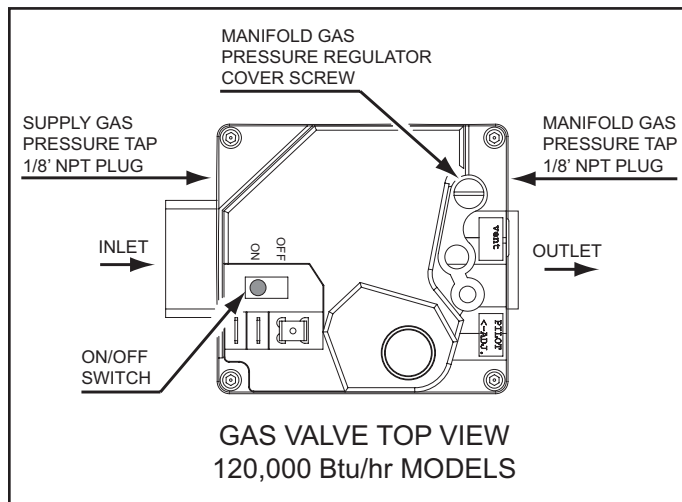
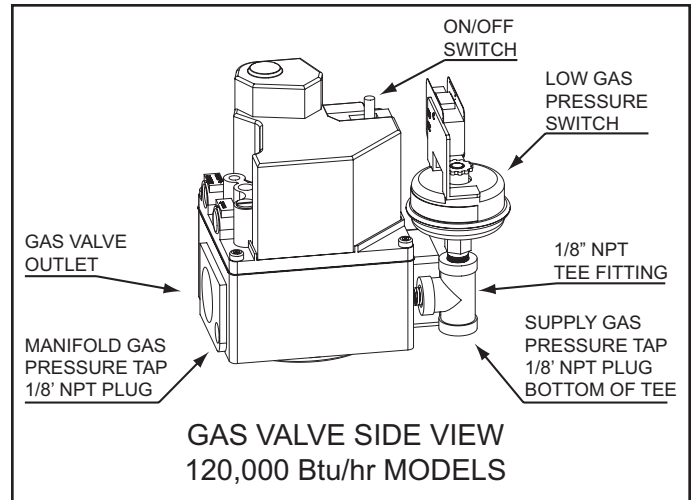

Figure 52
Figure 53
On SSF/SSX 100 models there is a 1/8" NPT Tee fitting and pipe nipple installed for the Low Gas Pressure switch on the inlet side of the 24 Volt Gas Valve with a 1/8" pipe plug for this purpose. Remove the 1/8 inch pipe plug from the bottom of the Tee fitting and install a barb fitting to connect the manometer sensing tube, see Figure 53 on page 51.
SSF/SSX 100 models: remove the 1/8 inch pipe plug from the body of the gas valve on the outlet side and install a barb fitting to connect the manometer sensing tube, see Figure 52 on page 51.
- SSF/SSX 100 models: turn the on/off switch on the gas valve to the “on” position, see Figure 52 and Figure 53.
2. Remove the manifold gas pressure regulator cover screw, see Figure 52 on page 51.